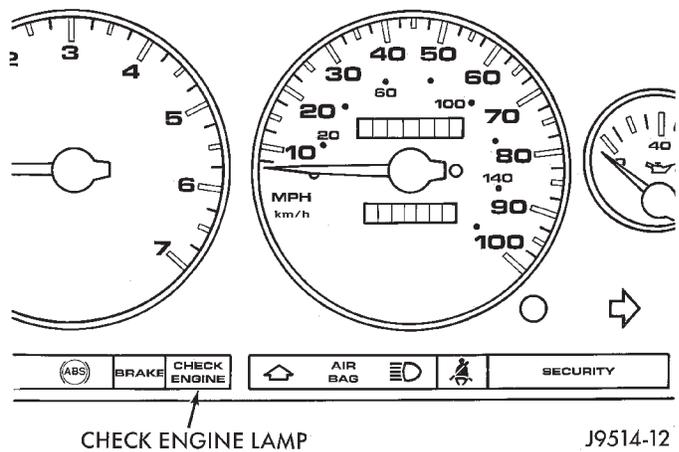

Fig. 14 Check Engine Lamp Location
NOTE: If the engine has remained cool for too long a period, such as with a stuck open thermostat, a Diagnostic Trouble Code (DTC) number 17 can be observed at the malfunction indicator lamp. This lamp is displayed on the instrument panel as the CHECK ENGINE lamp (Fig. 14).
A stored Diagnostic Trouble Code (DTC) can be displayed by cycling the ignition key On-Off-On-Off-On within three seconds and observing the malfunction indicator lamp. This lamp is displayed on the instrument panel as the CHECK ENGINE lamp (Fig. 14).
- If the lamp (Fig. 14) flashes 1 time, pauses and flashes 2 more times, a flashing Diagnostic Trouble Code (DTC) number 12 is indicated. If this code is